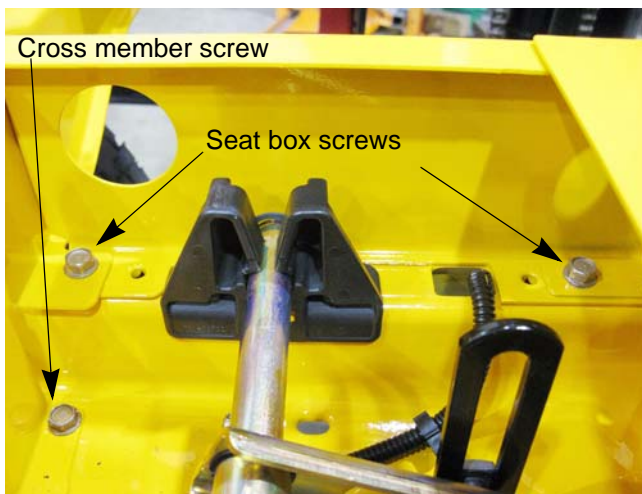

Figure 3.18
11. Remove the four screws (two on each side), that hold the seat box to the frame using a 1/2" wrench. See Figure 3.18.